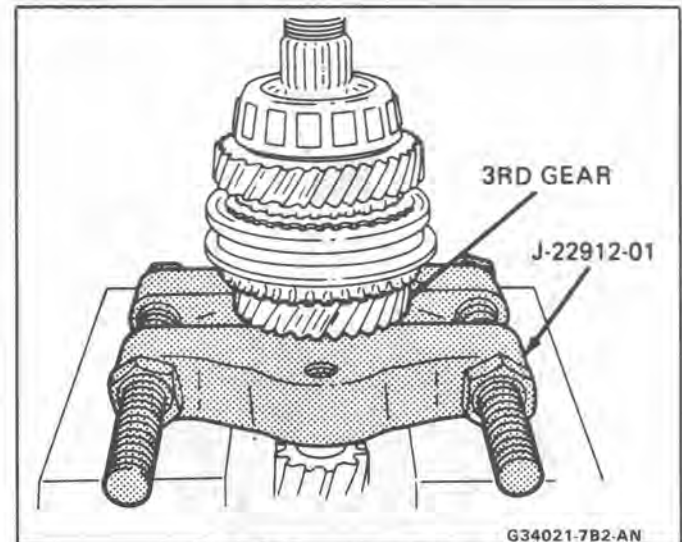

Fig. 22 Rear Input Bearing
2. Pull out the rear bearing 4th gear, 3rd/4th synchronizer assembly and 3rd gear all together, using J 22912-01 and a press (Fig. 22).